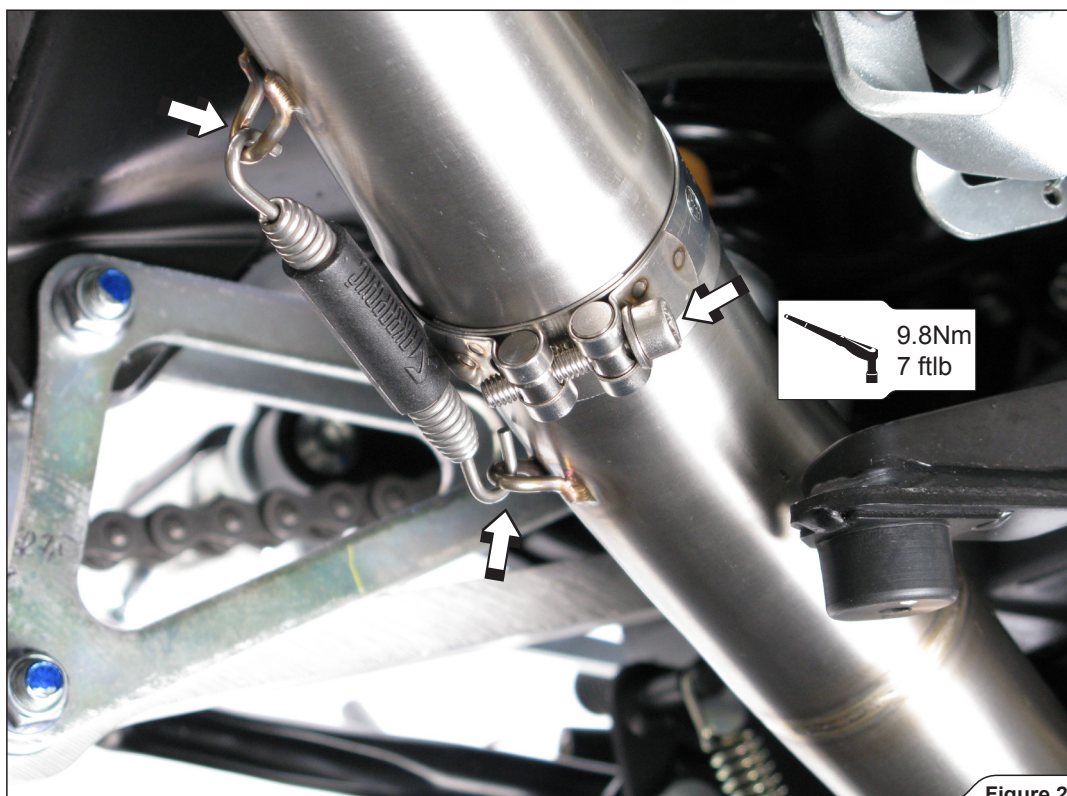

Figure 21
13. **For Akrapovič Racing only:** position the muffler correctly and slide it onto the outlet side of Akrapovič link pipe. Attach the spring, align the muffler in respect to the motorcycle and tighten the metal clamp to a specified torque (Figure 21).